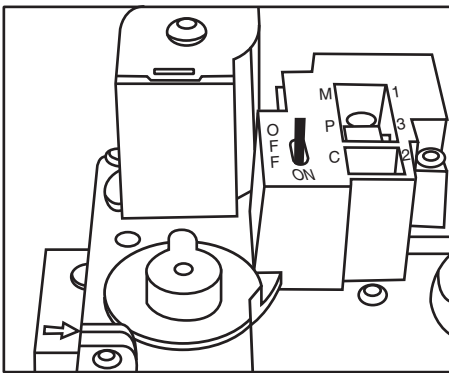

Fig. 18 - Control Switch to OFF
5. Turn control switch on the gas control to OFF position. (See Fig. 18.)